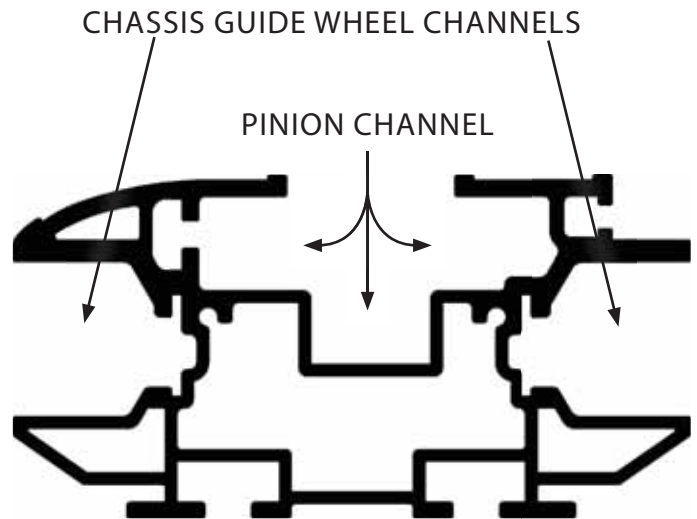
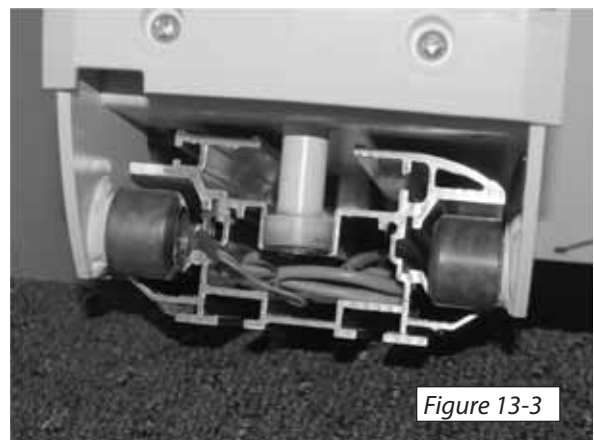

Figure 13-1
Figure 13-3
**1.** The chassis slides onto the top of the rail. Carefully pick up the chassis and align the pinion and guide wheels with the rail channels. Insert the chassis onto the rail. [Figure 13-1 and 13-2] Let it slide down until it stops (the pinion gear will make contact with the gear rack, allowing it to stop). [Figure 13-3]